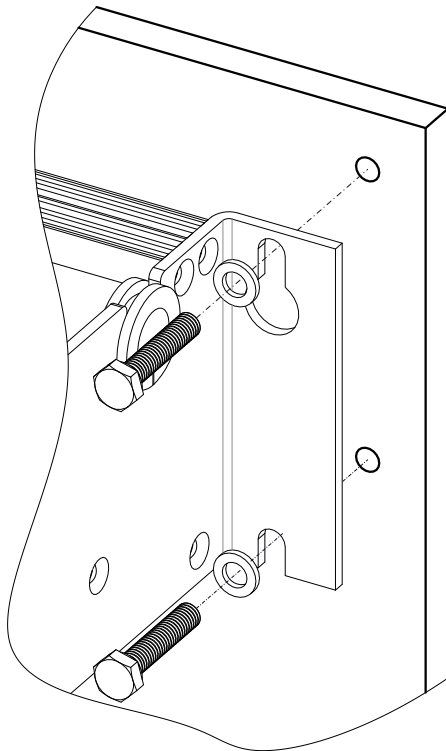

Figure 11: Attaching the System Fan
3. To attach the system fan, use bolts and washers of size M6, see Figure 11.